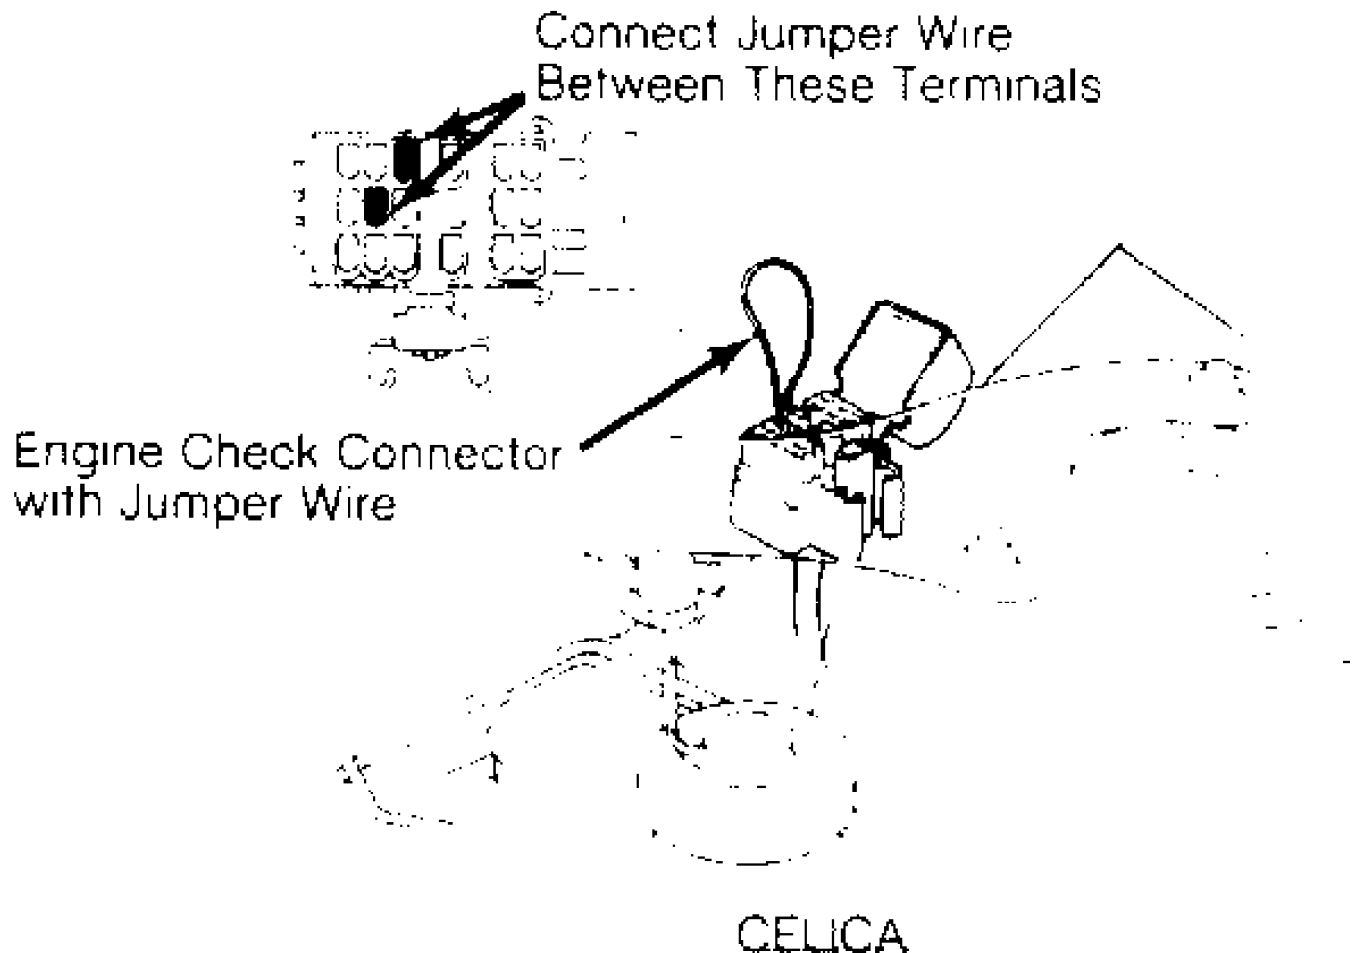

Fig. 9: Installing Engine Check Connector Jumper Wire
2) To enter diagnostic mode, turn ignition on. DO NOT start engine. Install jumper wire between terminals of engine check connector. See Fig. 9.